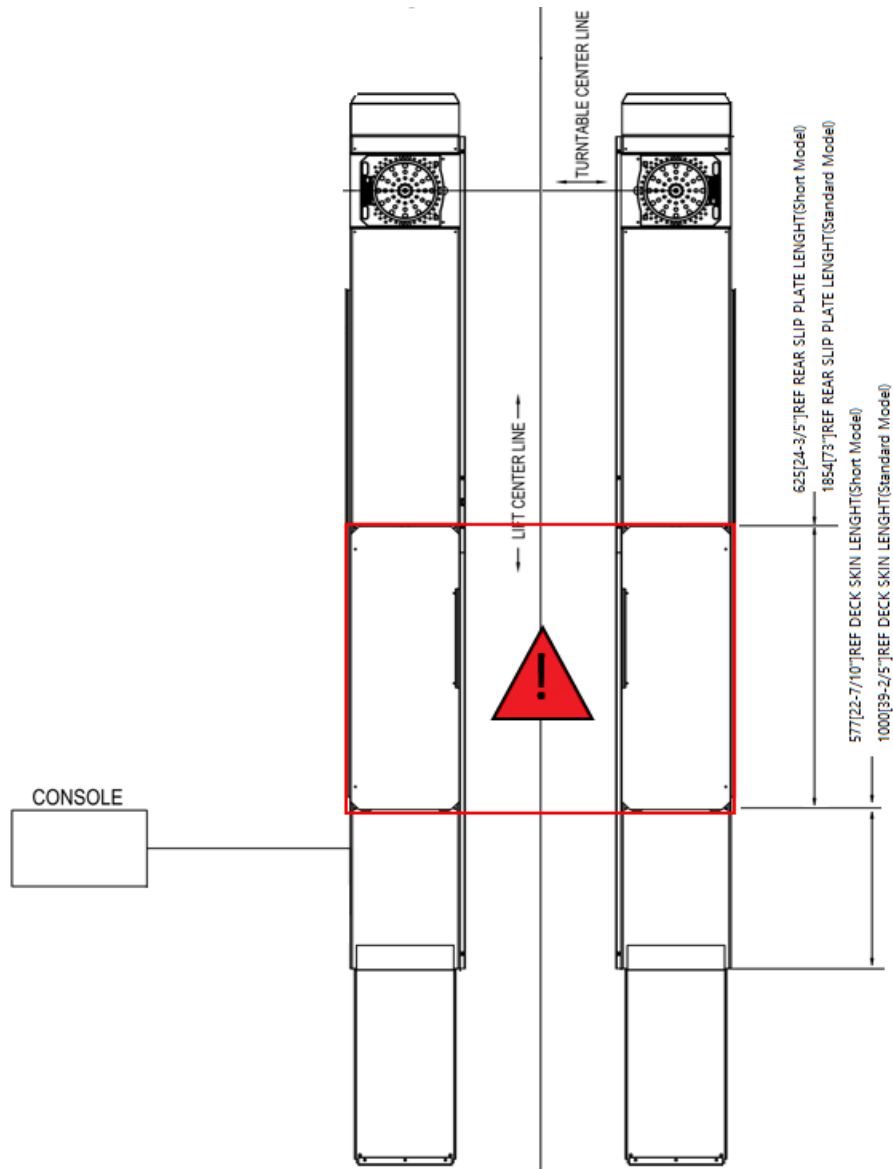

Figure 36
9. When using the function of the slip plate, ensure that the Jack Beam is not in the red area, to avoid the light damage during the slip plate moving. See Figure 36.